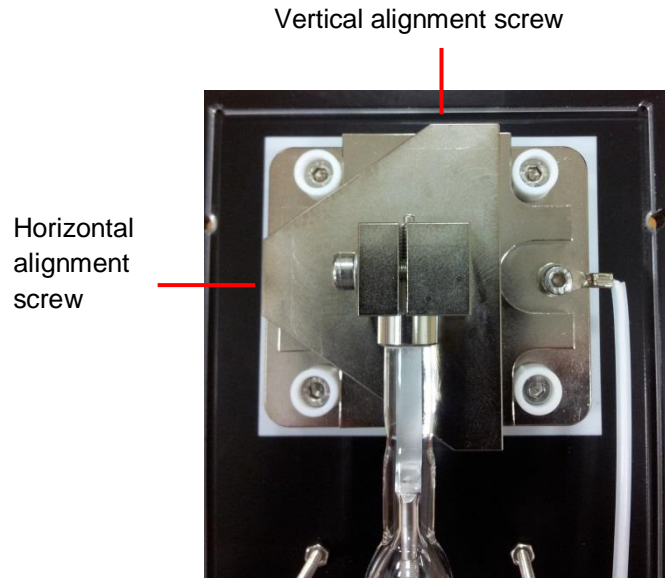

Figure 3.5 - Location of the lamp alignment screws
8. Centre the vertical position of the anode-mounting block by adjusting the vertical alignment screw (Figure 3.5).